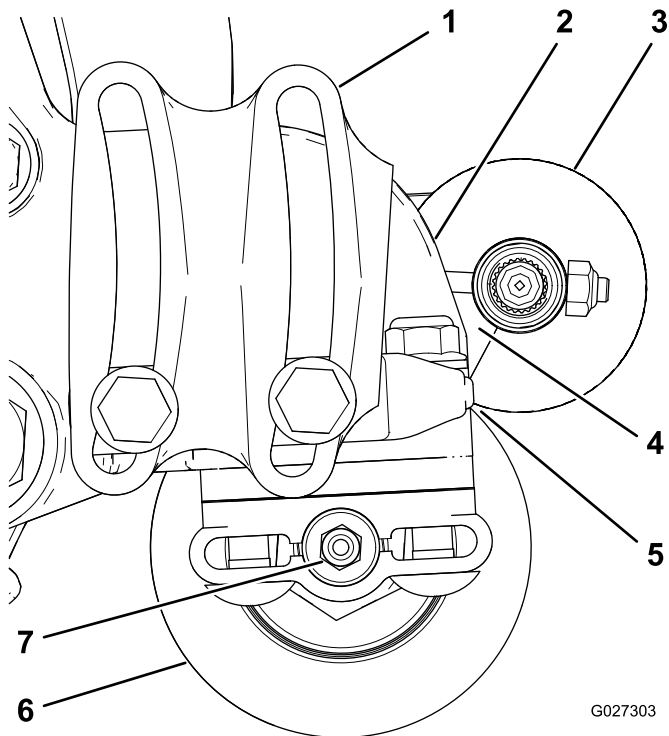

Figure 10
2. Position the roller brush so that it is just touching or resting on the rear roller (Figure 10).